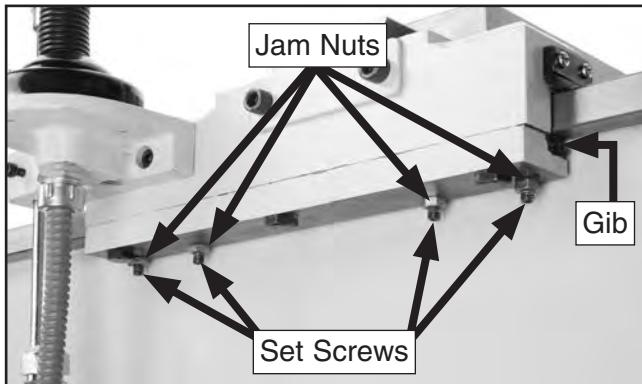

Figure 122. Saddle gib components.
The saddle gib is located on the bottom of the back edge of the slide (see **Figure 122**). This gib is designed differently than the cross or compound slide gibs. Instead of being a wedge-shaped plate, it is a flat bar. The gib pressure is applied by four set screws. Jam nuts secure these set screws in place, so they will not loosen during operation.
4. Loosen jam nuts on four set screws shown in **Figure 122**, and adjust set screws same amount as follows: